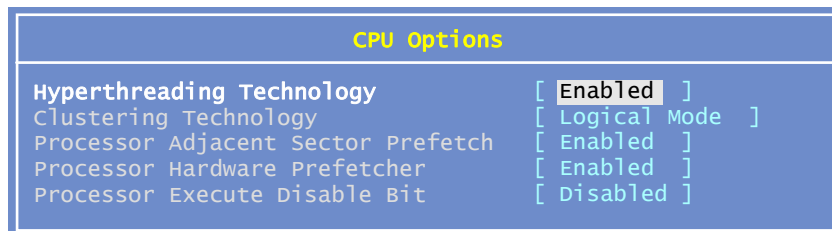

Figure 4-1 Hyper-Threading setting
2. From the main menu, select **Advanced Setup** → **CPU Options**. Figure 4-1 appears.